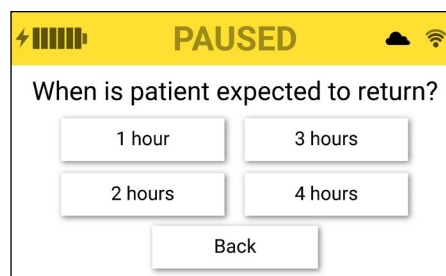

Figure 10. Off unit paused time selection screen
4. Select the desired time frame based on when the patient is anticipated to return. (Fig. 10)